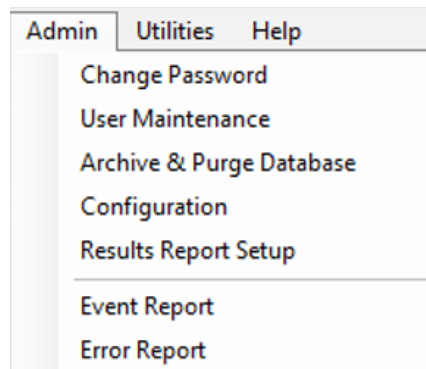

Figure 94 Admin menu
- 1 From the **Admin** drop-down menu, select **Results Report Setup** (Figure 94).